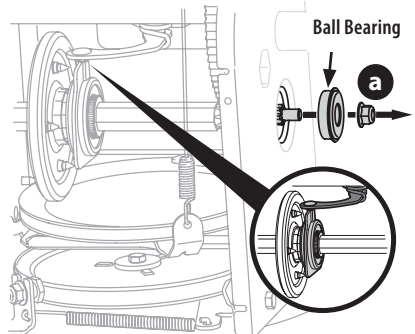

Figure 87
5. Carefully remove hex nut (a) which secures hex shaft to frame and lightly tap the shaft's end to dislodge ball bearing from right side of frame (Figure 87).
NOTE: Make sure shift lever pin is in place in bearing housing (Figure 87 inset).